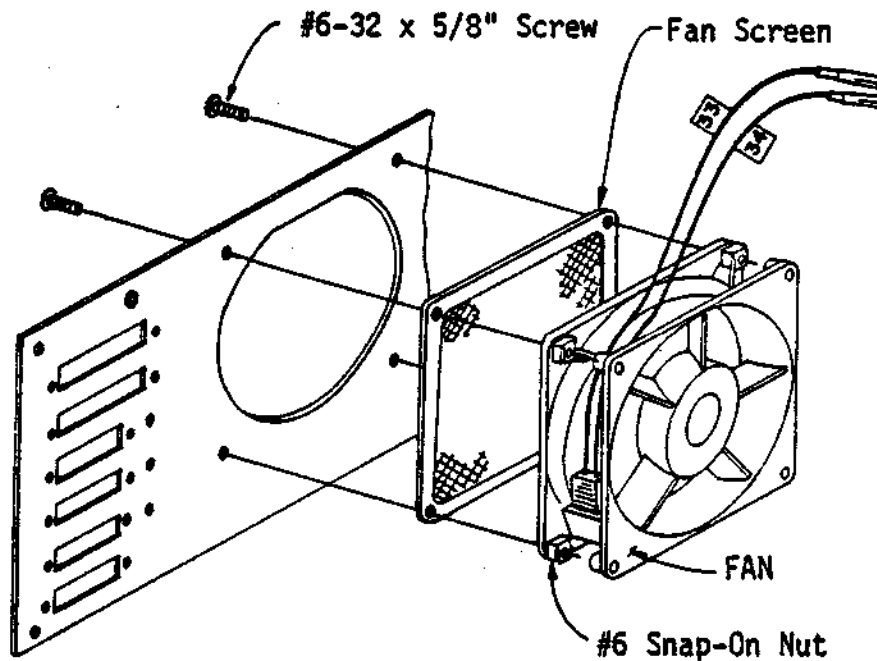

Figure 5-52. Fan and Fan Screen Mounting
5-61. FAN MOUNTING (Figure 5-52)
1. Before mounting the fan and fan screen to the back panel, install the female plug onto the terminals as shown in Figure 5-52. If your kit does not supply a plug, solder two 20-inch lengths of 22-18 gauge wire to the terminals.
3. Refer to Figure 5-52. Mount the fan screen and fan to the back panel (with the airflow flowing inward), using four #6-32 x 5/8 inch screws and four #6 "snap-on nuts."